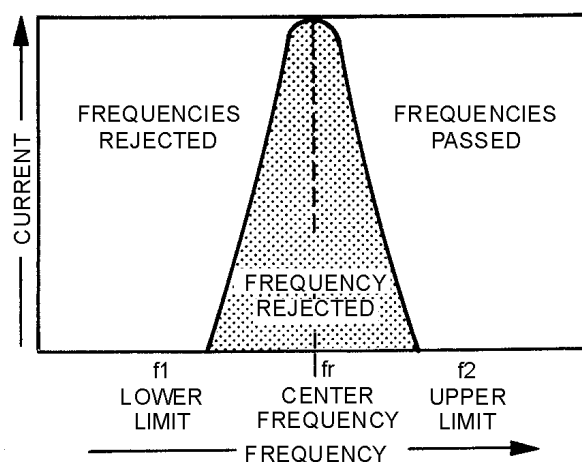

Figure 1-21.—Band-reject filter response curve.
A band-reject filter circuit is used to block the passage of current for a narrow band of frequencies, while allowing current to flow at all frequencies above or below this band. This type of filter is also known as a BAND-SUPPRESSION or BAND-STOP filter. The way it responds is shown by the response curve of figure 1-21. Since the purpose of the band-reject filter is directly opposite to that of a bandpass filter, the relative positions of the resonant circuits in the filter are interchanged. The parallel-LC circuit shown in figure 1-22, view (A), replaces the capacitor of figure 1-18, view (A). It acts as a band-reject filter, blocking the passage of currents having frequencies at or near resonant frequency and passing all currents having frequencies outside this band. The series-LC circuit shown in figure 1-22, view (B), replaces the inductor of figure 1-18, view (B). If this series circuit is tuned, to the same frequency as the parallel circuit, it acts as a bypass for the band of rejected frequencies. Then, the simplest type of band-reject filter is obtained by connecting the two circuits as shown in figure 1-22, view (C).